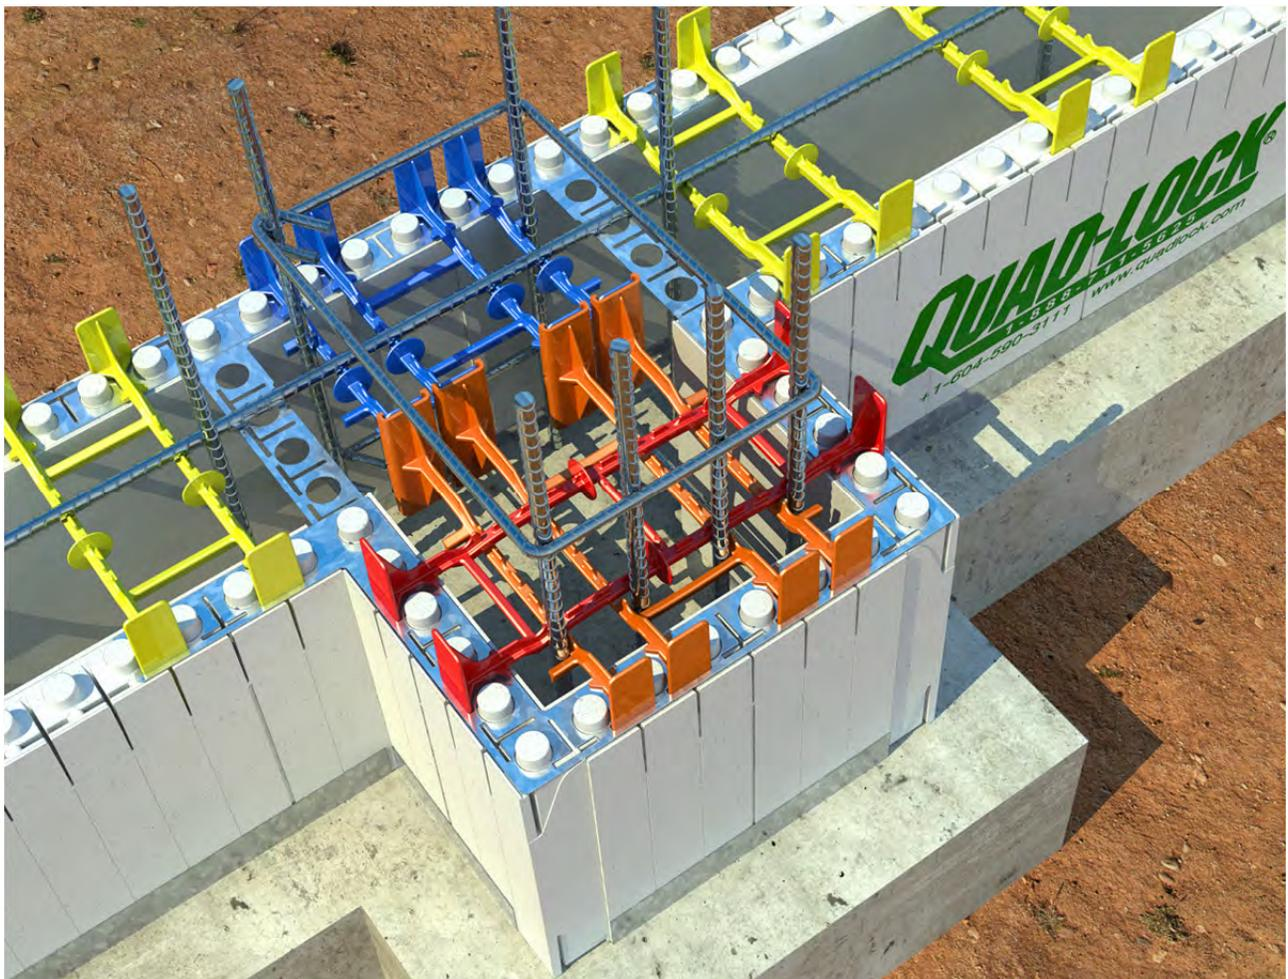

Figure 67: Pilaster Built with Quad-Lock Components
- Two “cross ties” (see Figure 67) should be placed over the top of transverse ties to support the sides of the pilaster.